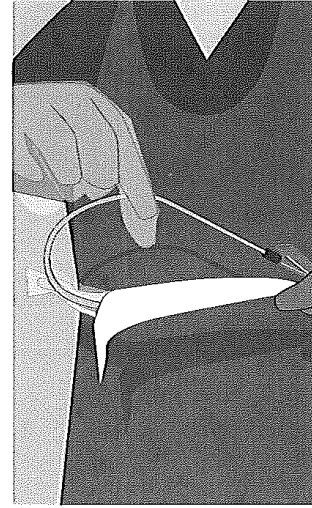

Fig 3. Put on glove and remove the catheter from the packaging
- Put a sterile/clean glove on the dominant hand; remove the catheter from the packaging, avoiding contamination (Fig 3).